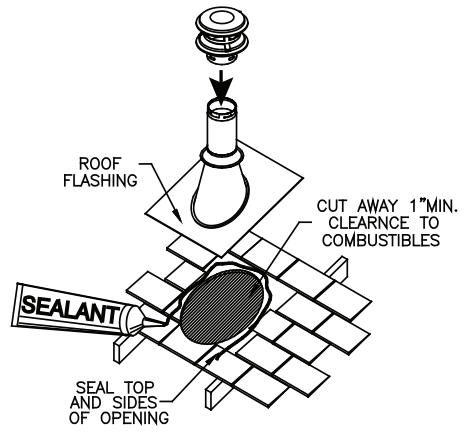

Figure 7
**H.** After lining up for the hole in roof, using the same method as 2. (B), cut either a round or square hole in the roof (**Figure 7**). Always cut the hole with the proper clearance to the vent pipe. Install the upper edge and sides of Flashing under the roofing materials and nail to the roof along the upper edge and sides (**Figure 8**). Do not nail across the lower edge. Seal all nail heads with non-hardening waterproof sealant.